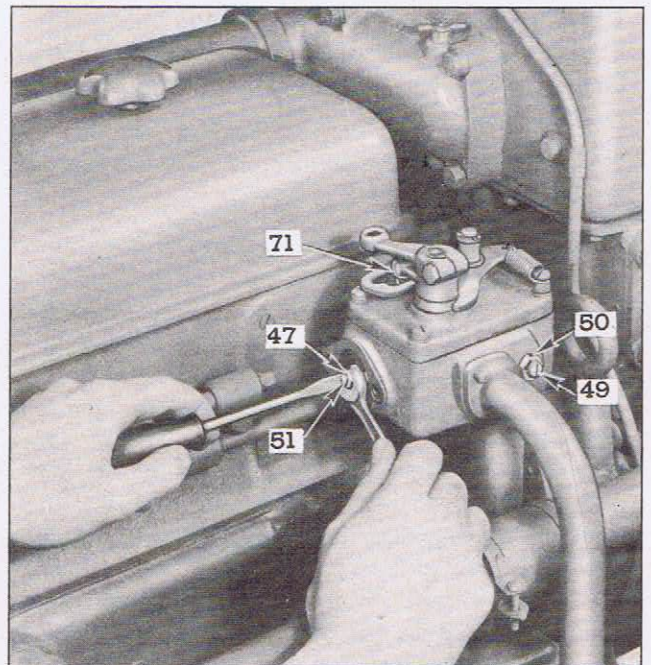

FIG. 9—GOVERNOR IDLE-SPEED ADJUSTMENT.
- (b) Loosen lock nut (50) and turn buffer screw (49) out until screw projects $\frac{5}{8}$ " beyond lock nut. (Fig. 9.) Set throttle control lever in idling position and start engine. If engine "gallops" or "rolls", after it has become thoroughly warm, gradually turn buffer spring screw (49) IN to contact differential lever until "roll" disappears, or nearly so. If engine doesn't "roll", leave buffer screw backed out until after low-speed adjustment has been completed.
- (c) Loosen lock nut (47) on low-speed adjusting screw (51).
- (f) Tighten idle adjusting screw lock nut (47) and replace cover and gasket over low speed adjusting screw.
1. Back out buffer screw (49), Fig. 9, until it projects $\frac{3}{8}$ " from side of governor control housing.